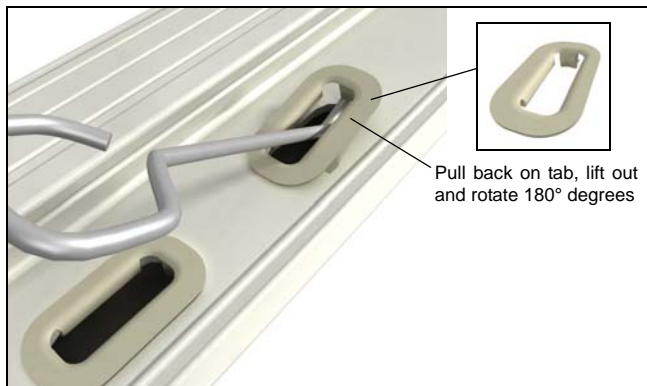

Figure 5
- If the multi-point lock is closing hard at the sill on the lock side of the door insert a paint can opener into the strike under one of the sill strike tabs. Pull back and lift up to release the strike from the sill. See figure 5.